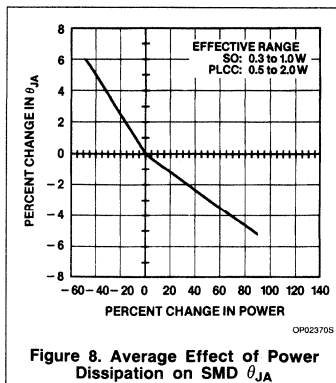

Figure 8. Average Effect of Power Dissipation on SMD  $\theta_{JA}$
The data presented in this application note was run at constant power dissipation for each package type. The power dissipation used is given under Test Conditions for each graph. Higher or lower power dissipation will have a slight effect on thermal resistance. The general trend of thermal resistance decreasing with increasing power is common to all packages. Figure 8 shows the average effect of power dissipation on SMD  $\theta_{JA}$ .
2. Determine  $\theta_{JA}$  @ 0.5W using Average Effect of Power Dissipation on AMD  $\theta_{JA}$ , Figure 8.
From Figure 8: